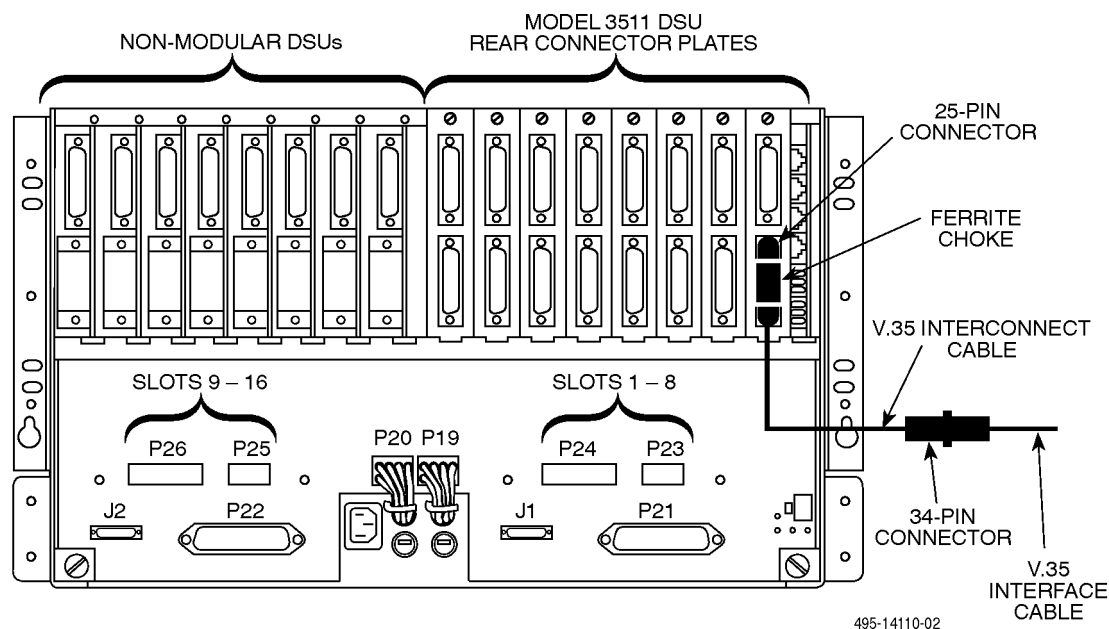

**Figure 4-5. Model 3511 DSU V.35 Interconnect Cable Installation
1. Connect the 25-pin end of the V.35 interconnect cable to the bottom DTE connector on the rear connector plate (refer to Figure 4-5). Use a small screwdriver to tighten the screws on both sides of the connector.